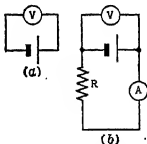

FIG. 112. Two tests are made to determine the internal resistance of the cell.
**Prob. 20-6.** A voltmeter put across a cell as in Fig. 112 (a) reads 1.46 volts. When put across the same cell connected as
in Fig. 112 (b) the voltmeter reads 0.92 volt. The ammeter *A* reads 9 amperes.